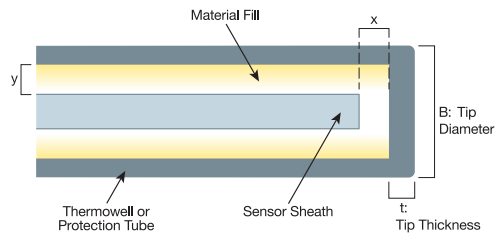

Figure 3.2.3.8b – Factors Affecting Response Time for a Large Bore Thermowell
3.3.3.2.1 – Protection tubes, sometimes called Tubular Thermowells, are fashioned by welding a flange or threaded fitting to one end of tube or small section of pipe or tubing and capping the other end. Protection tubes can also be constructed of ceramic material and bonded to a metal process fitting. Tubular thermowells can be constructed for very long immersion lengths and are often used for measurements where flow forces are low. Since they are fabricated from tubing, they have a much larger bore than other thermowells which causes a considerable thermal lag. See Figure 3.2.3.8b.